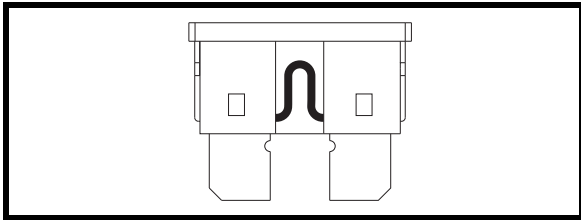

Figure 25. Working Fuse
2. Examine the fuse to be sure it is blown. **See figures 25 and 25A.**